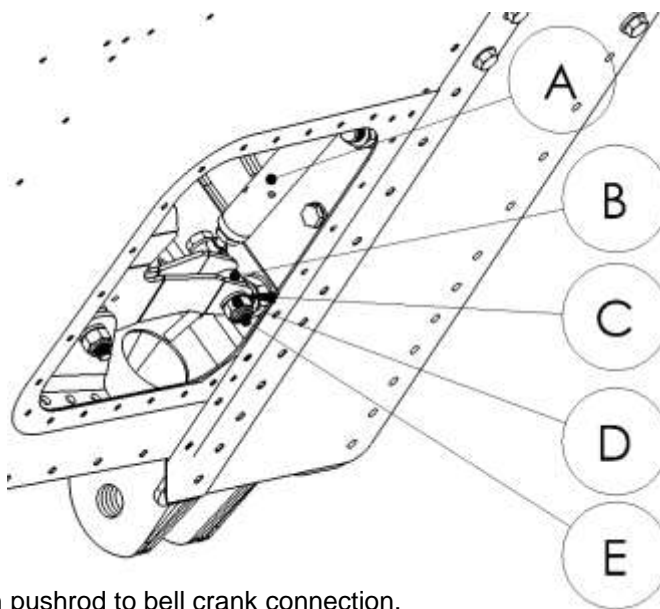

Figure 9: Aileron pushrod to bell crank connection.
- Tighten the lock nut on the bolt through the aileron bell-crank, connected to the aileron pushrod sufficiently, observe the correct placement of washers (refer to Figure 9) and note that the bolt is installed with its head facing the sky. This can be accessed using the inspection panels on the roof, inside the cockpit, above the doors.